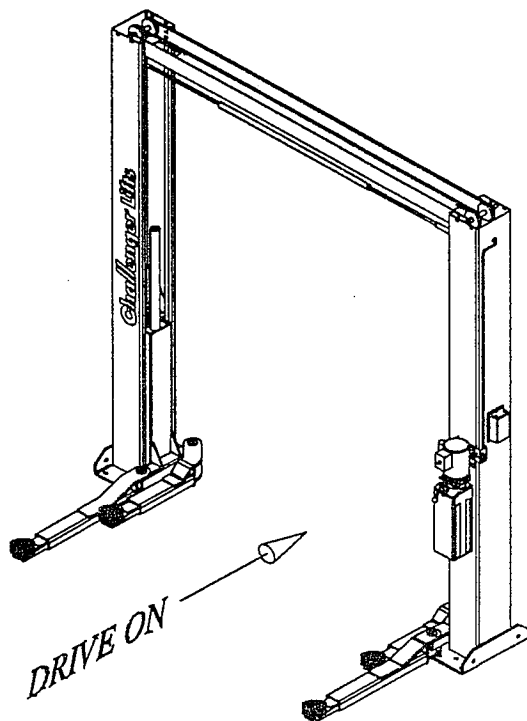

Fig 2
3. **Lift Orientation: CAUTION !!!** If the lift is not installed in this manner, the arms may damage the power unit during operation. **See Fig 2.**